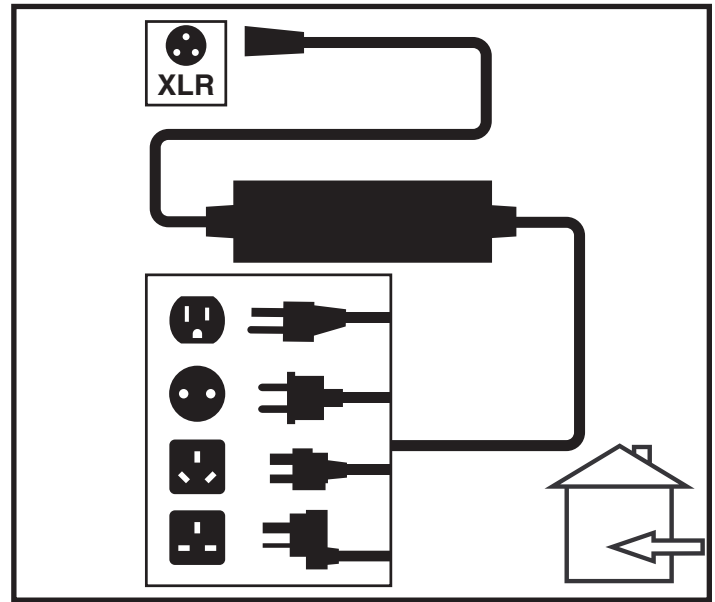

Figure 18. Battery Charging
1. Position the front of your power chair next to a standard electrical outlet. **See figure 18.**
3. Plug the off-board charger into the off-board charger/programming socket on the controller. **See figure 18.**